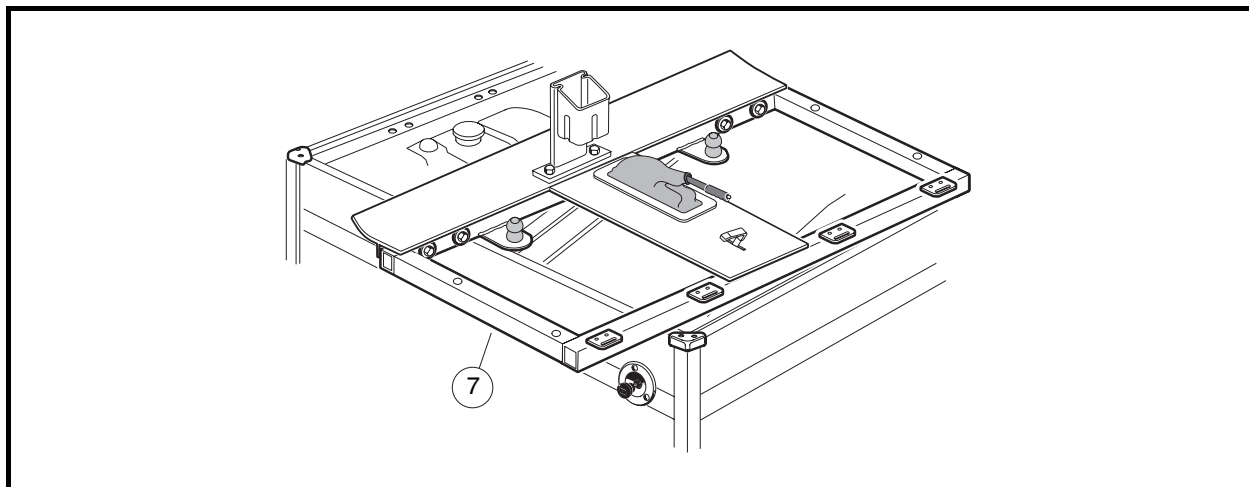

Figure 14-14 Seat Support Removal
6. Carefully remove and rotate the seat support (7) 90° clockwise and allow it to rest on the vehicle body (**Figure 14-14, Page 14-22**). See following **NOTE**.
- 2.3. Return the seat support (1) to its original position by rotating it 90° counterclockwise (**Figure 14-14, Page 14-22**).